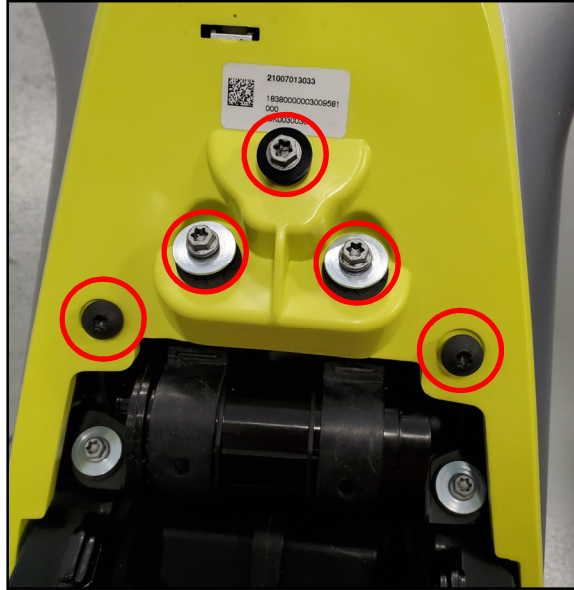

Fig. 3
4. Remove the five bolts that hold on the tank covers to the tank. Once the bolts are removed slide the cover up to detach it from the side cover. Remove both the right and left side covers (Figure 3).